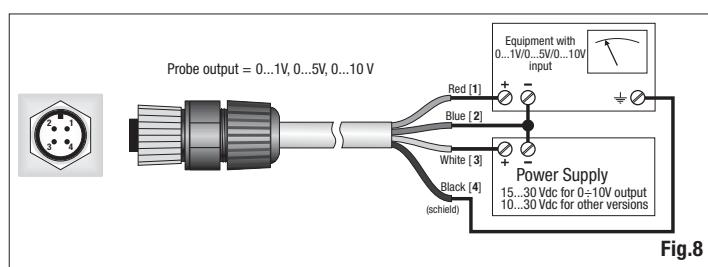

Fig.8
- LP PYRA 10 AV, LP PYRA 13AV have to be connected to a power supply and a multimeter, as shown below (Figure 8), the load resistance for reading the signal must be $\geq 100 \text{ k}\Omega$: